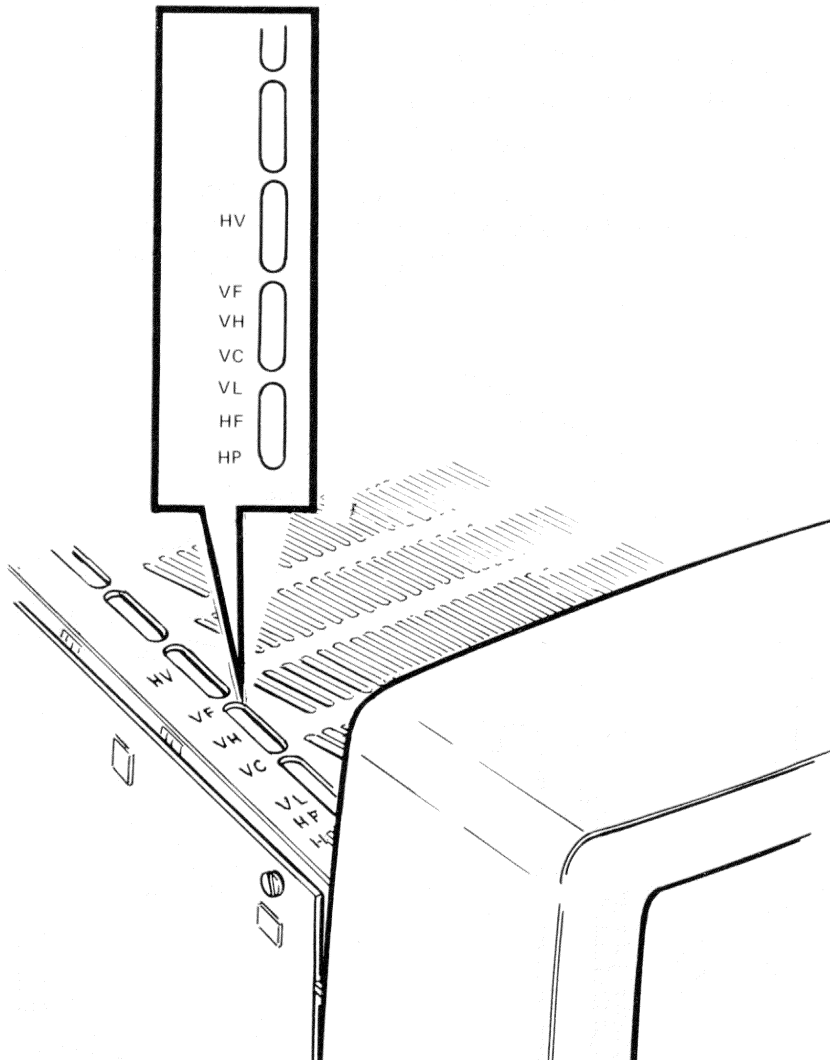

Figure 6-24 VR260 Monitor Adjustments (Top)
- d. On the top of the chassis (Figure 6-24), adjust VL (vertical linearity) for vertically uniform squares.